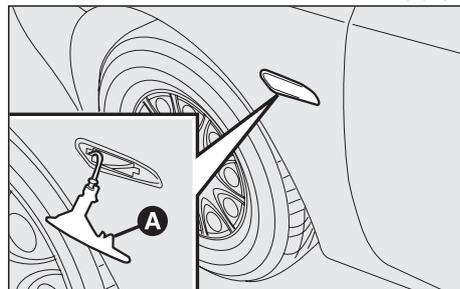
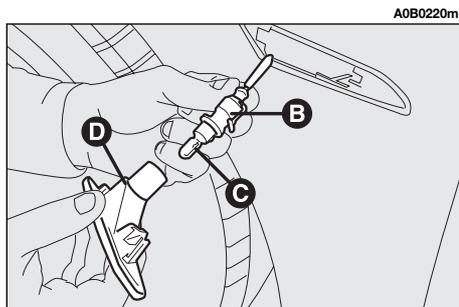

fig. 39
fig. 40
– Push the transparent cover towards the rear of the car to compress the tab (**A**-fig. 39). Release the front part and remove the unit.
– Turn the bulb holder counter-clockwise (**B**-fig. 40) and remove it from the transparent cover (**D**-fig. 40).
– Withdraw the bulb (**C-fig. 40**) which is of the pressure-fitted type and replace it.
– Insert the bulb holder (**B-fig. 40**) in the transparent cover (**D-fig. 40**) and position the unit ensuring that the clip clicks into place (**A-fig. 39**).